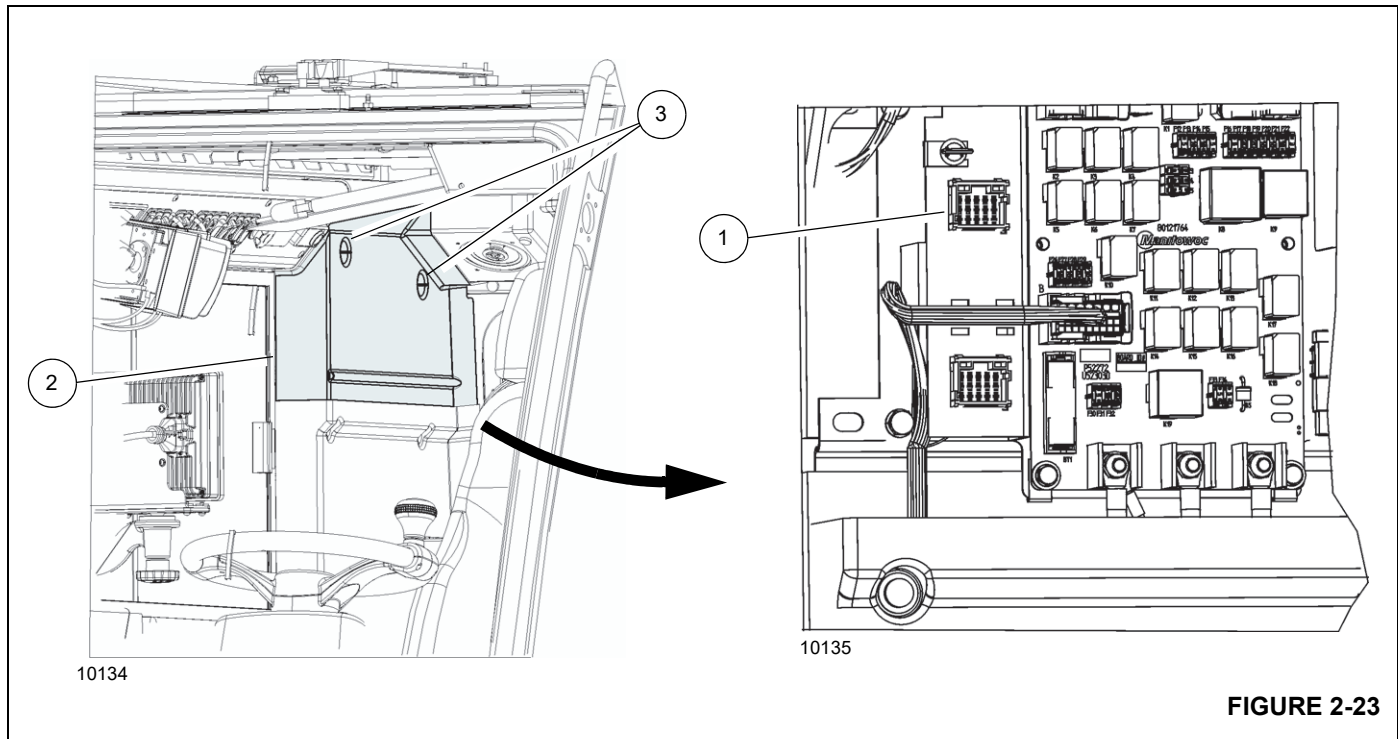

FIGURE 2-23
The diagnostic connector (1, Figure 2-23) is located behind the operator seat. The rear electrical upper cover (2) must be removed to access the diagnostic connector.
1. Move the operator seat as necessary to access the upper cover (2, Figure 2-23).
2. Turn the thumb screws (3).
3. Remove the upper electrical cover (2).
2. Install the cover (2) over thumbscrews (3). Make sure the edges of the cover fits securely.
3. Turn the thumbscrews (3) to secure the cover (2).
3. Connect cOSI connector to the diagnostic port (1, Figure 2-23).